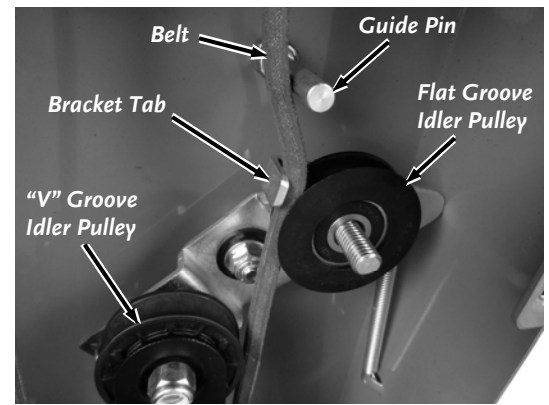

Figure 32
11. Install the small Spacer and flat Idler Pulley (**Figure 32**). Make sure you place the Belt correctly between the Idler Pulley, Bracket Tab, and Guide Pin.
The Belt must be installed on the inside of the guide Pin as shown in figure 32. If it is not installed on the inside the Trimmer Head will not function correctly.